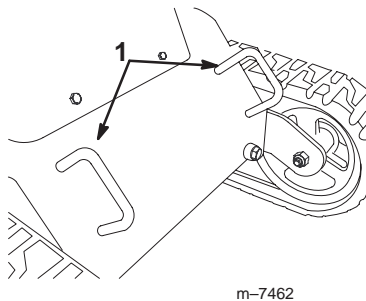

Figure 28
4. Secure the traction unit to the trailer with chains or straps using the tie-down/lift loops at the front and rear of the traction unit (Fig. 28 and 29).
You can lift the traction unit using the tie-down/lift loops as lift points (Fig. 28 and 29).